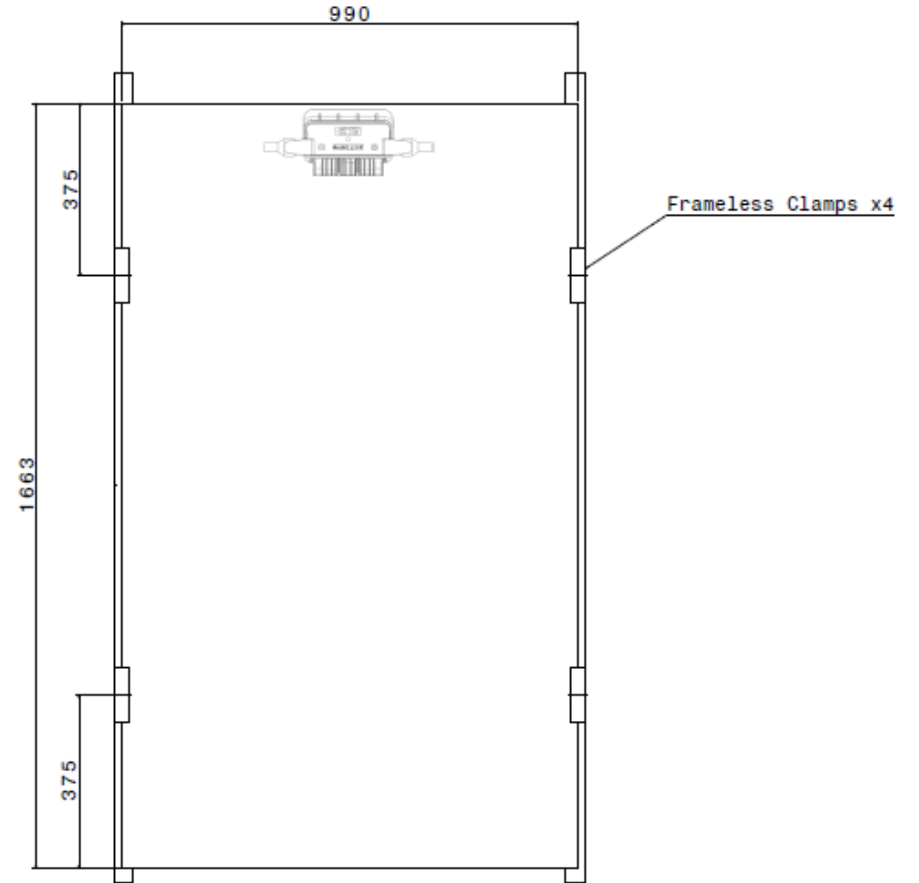

Figure 2 (Parallel Orientation)
- For flat commercial rooftop and utility applications that have significant albedo, the modules may be mounted with rails along the long edge of the module as shown in Figure 2, to minimize module backside shading and maximize the backside bifacial gain. Clamp length should be equal to or greater than 80mm.